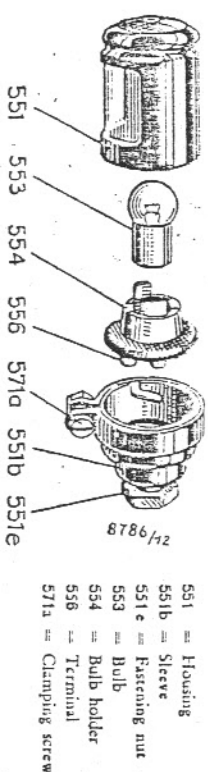

Fig. 13. Number-plate lamp JN 5, dismantled.
### a) Number plate lamp JN 5 (Fig. 13).
1. Loosen tension screw (Fig. 13).